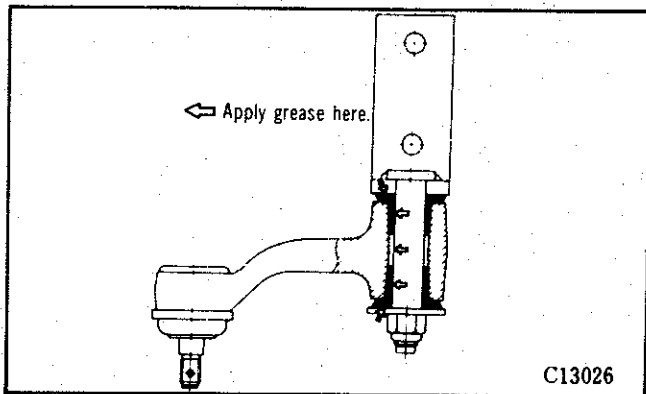

Fig. 9—Relative position of idler arm and support
- (1) Apply neutral detergent to the inside surface of the idler arm and outside surface of the bushing, and insert the bushing up to the stepped portion. If it is hard to insert, force it with a vice. After the bushing has been inserted, thoroughly wipe away the neutral detergent.
- (2) Apply a thin coat of lithium base chassis grease to the shaft portion of the arm support and the inside surface of the bushing and insert the arm.
- (3) Next, position the arm as illustrated in Fig. 9 and tighten to the specified torque.
- Only apply grease to the specified area, refer Fig. 9.